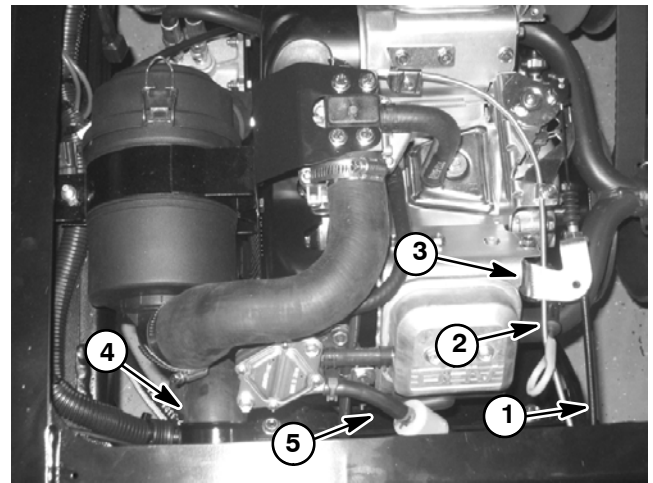

Figure 13
6. Disconnect fuel inlet hose from the fuel pump (Fig. 13).